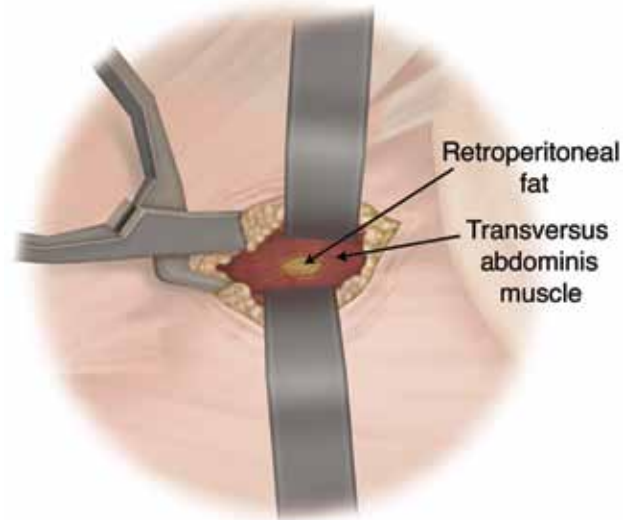

Figure 9
- Step 2** The external oblique fascia will be the first plane encountered and is the only layer that will need to be sharply incised. A Kelly Clamp is then used to bluntly spread through the fibers of the external oblique, internal oblique, and transversalis muscles. All dissection is done in line with the muscle fibers as these muscles layers run in opposite directions. After bluntly penetrating the transversalis fascia, the yellow retroperitoneal fat is exposed (**Figure 9**).